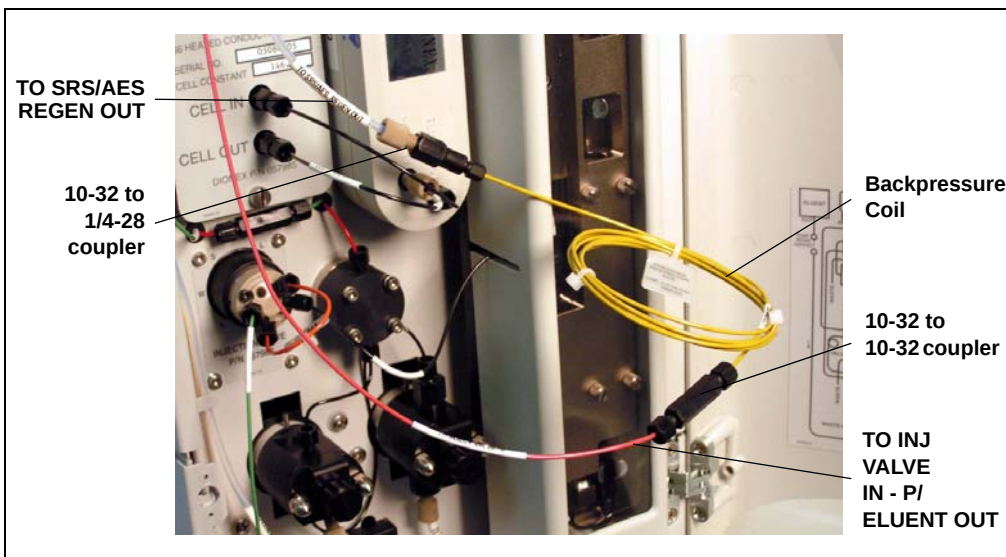

Figure 5-61. Backpressure Coil Connections for Hydrating and Conditioning the EPM with Carbonate Eluent
5. Connect the **TO SRS/AES REGEN OUT** line to the 10-32 to 1/4-28 coupler (see Figure 5-61).
NOTE The backpressure coil connection in Figure 5-61 is temporary; it is used only during the hydration and conditioning procedure described in the next section.